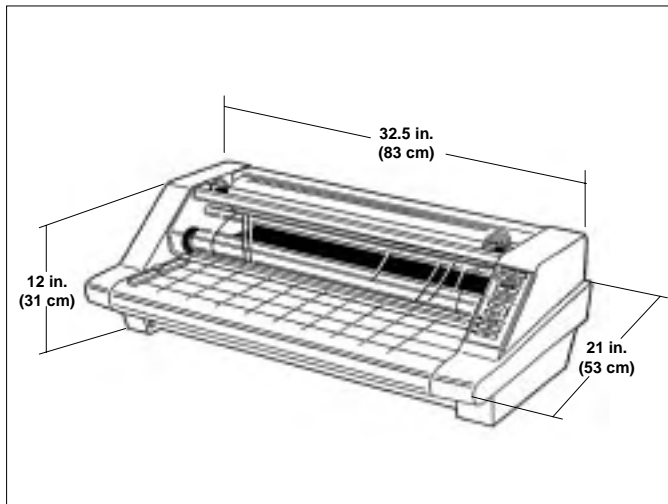

Fig. 1
**Dimensions (W x L x H):** (Fig. 1)
**Dimensioni (L x P x H)** (fig. 1)